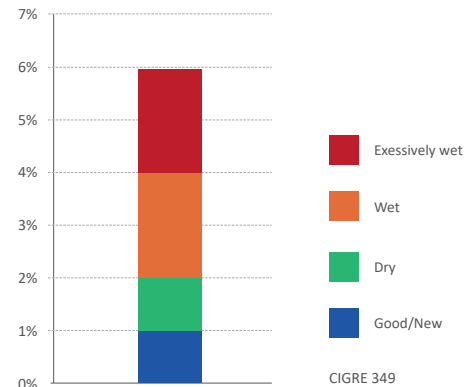

Figure 7. Water content in paper in %
- Based on the Oomen curve calculation, the trend of the water content in paper can be followed (see figure 7)